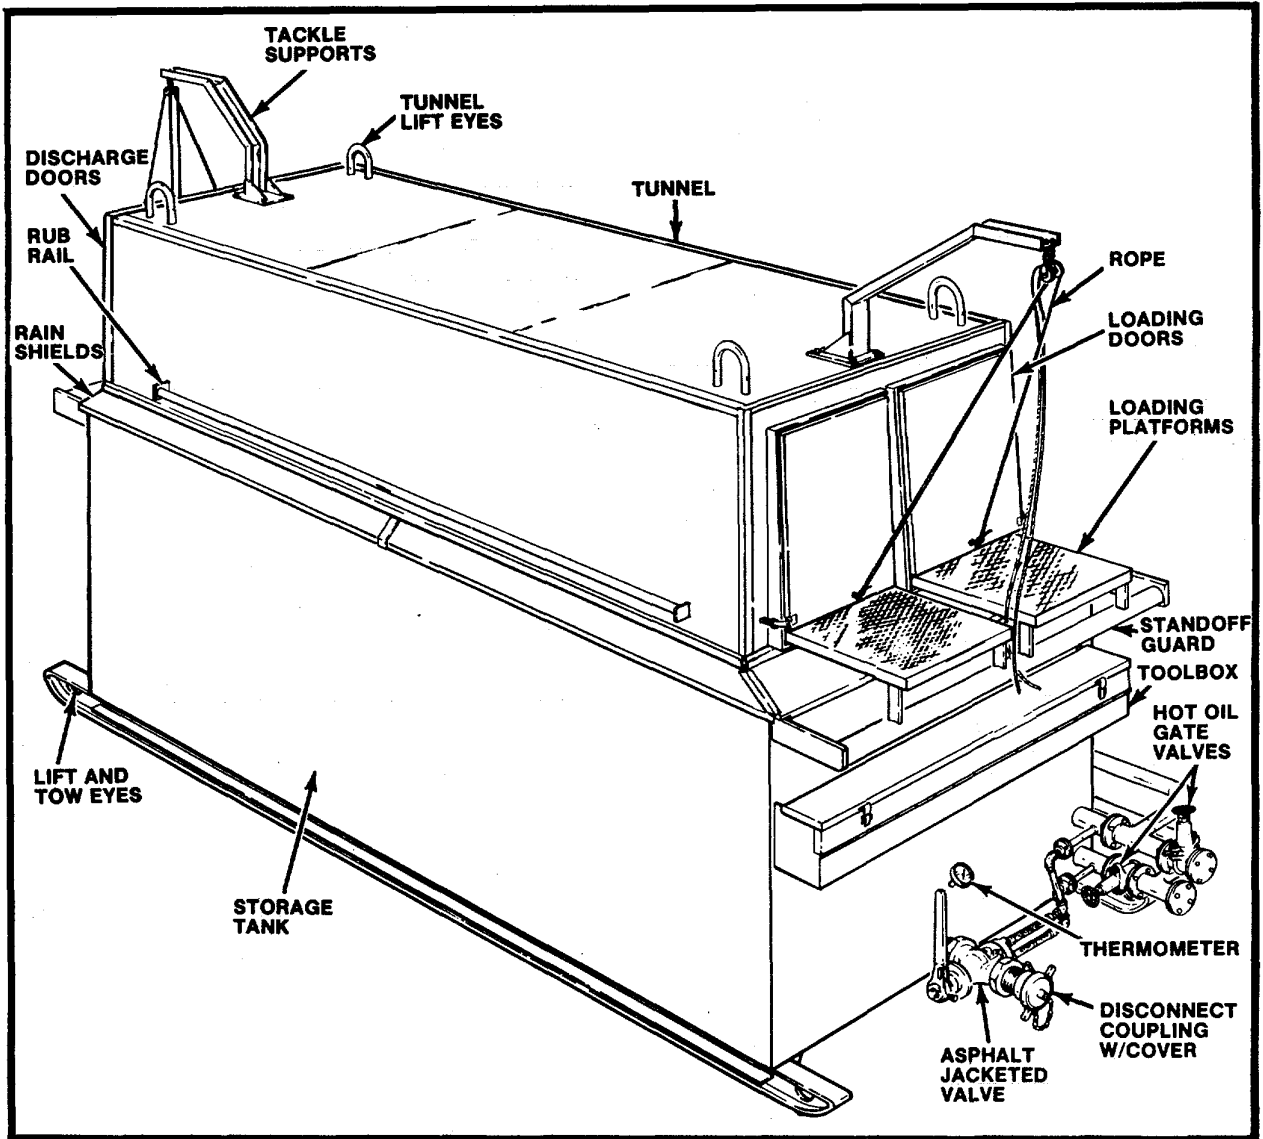

Figure 1-1. Asphalt Melter, Model STMD-3000, right front, three-quarter view.
a. This manual provides instructions of operation and service and lists repair parts for the Chausse Model STMD-3000, asphalt de-drumming melter, manufactured by Chausse Manufacturing Co., Inc. The unit consists of a dual de-drumming tunnel and a 3000 gallon capacity, heated storage tank. The tunnel is constructed to handle a maximum of twelve, 55 gallon drum at one time, with a melting rate of 750 gallons per hour of 85-100 penetration asphalt cement. The melted asphalt cement can be maintained in the storage tank at pouring temperature (235° F.), and transferred to bulk storage tanks or distributors by means of a separately supplied asphalt pump. Figure 1-1, identifies major components and features of the melter in its basic operating configuration.